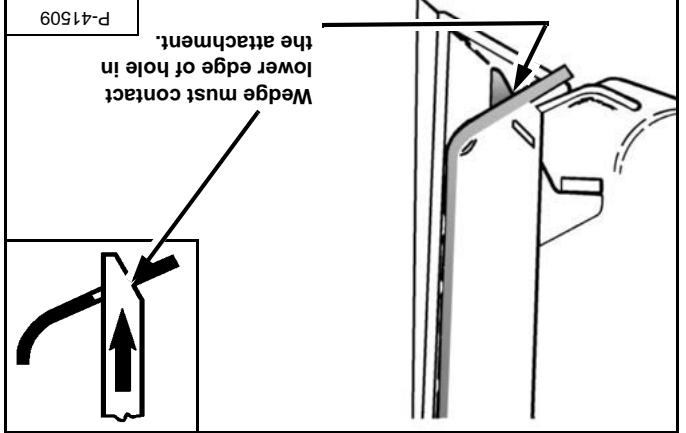

Figure OI-34
• The wedges must extend through the holes in the mounting frame of the attachment, securely fastening the attachment to the Bob-Tach [Figure OI-34].